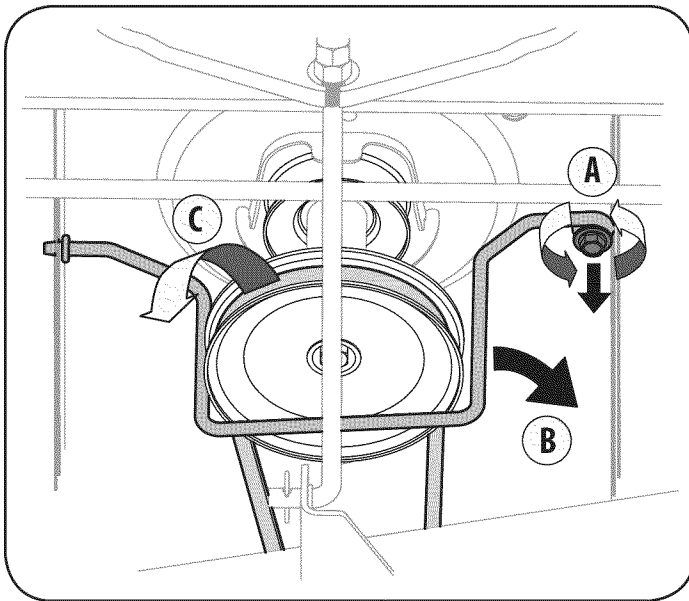

Figure 24
3. Remove the self-tapping screw (A) that secures the belt-keeper rod from around the tractor's PTO pulley, then remove the belt keeper rod (B). See .
4. Remove the belt (C) from around the tractor's PTO pulley. See Figure 24.